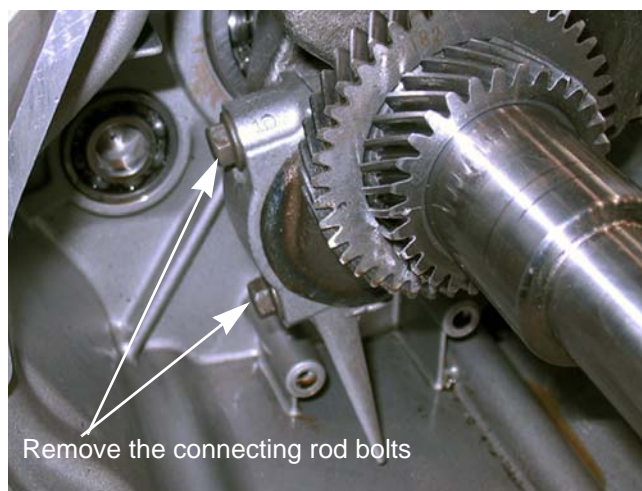

Figure 10.4
15. Remove the connecting rod cap using a 10mm wrench. See Figure 10.4.